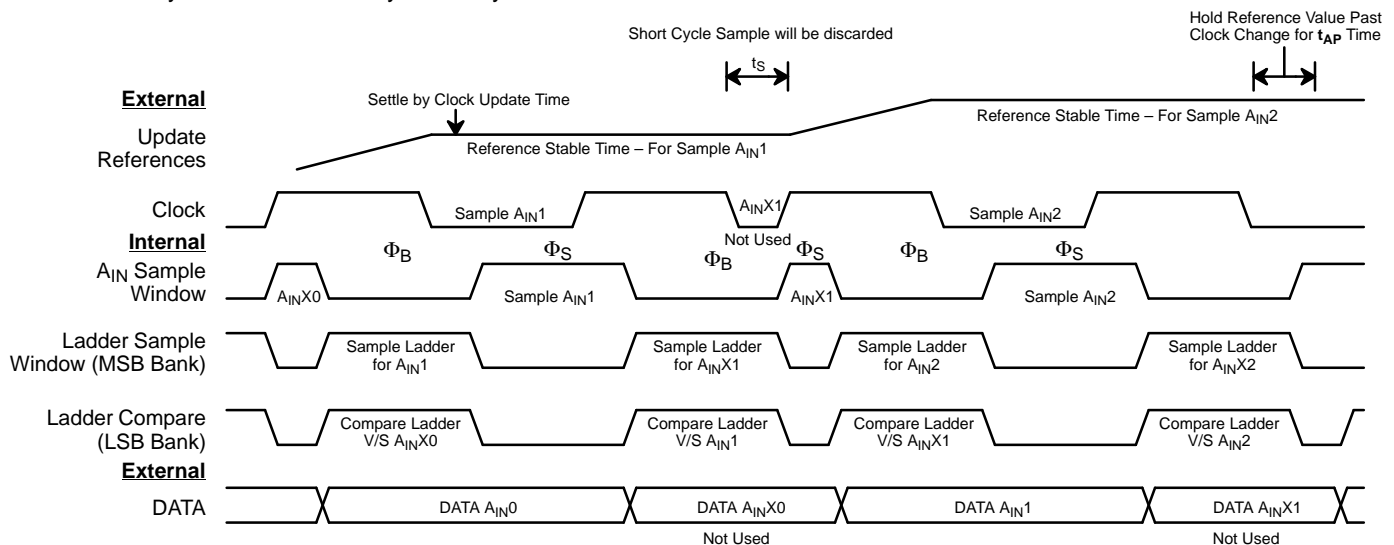

Figure 4. A_{IN} Sampling, Ladder Sampling & Conversion Timing
- ² Tester measures code transition voltages by dithering the voltage of the analog input (V_{IN}). The difference between the measured code width and the ideal value (V_{REF}/1024) is the DNL error (see Figure 4.). The INL error is the maximum distance (in LSBs) from the best fit line to any transition voltage (See Figure 6.).